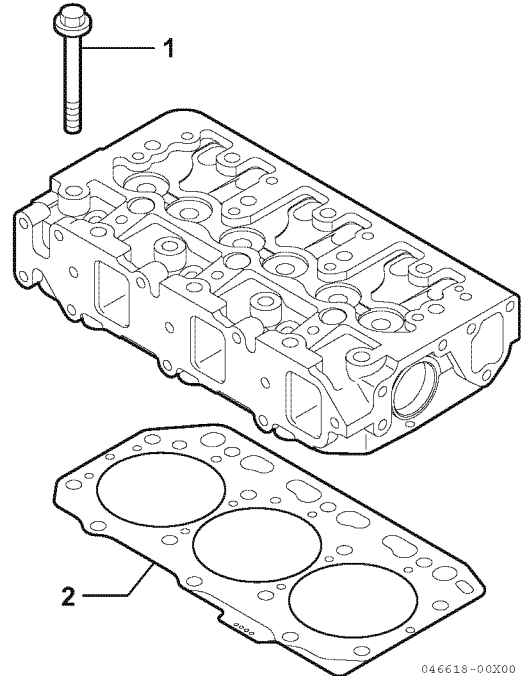
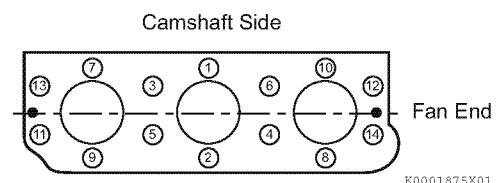

Figure 6-32
Figure 6-33
1. Carefully clean both the combustion surface of the cylinder head and the top surface of the cylinder block. Then place a new cylinder head gasket (Figure 6-32, (2)) on the cylinder block.
3. Lightly oil the threads of the cylinder head bolts (Figure 6-32, (1)). Tighten the bolts to the specified torque in two steps as shown in the chart below. Tighten in the sequence shown in (Figure 6-33). See Special Torque Chart on page 6-10 for specification.